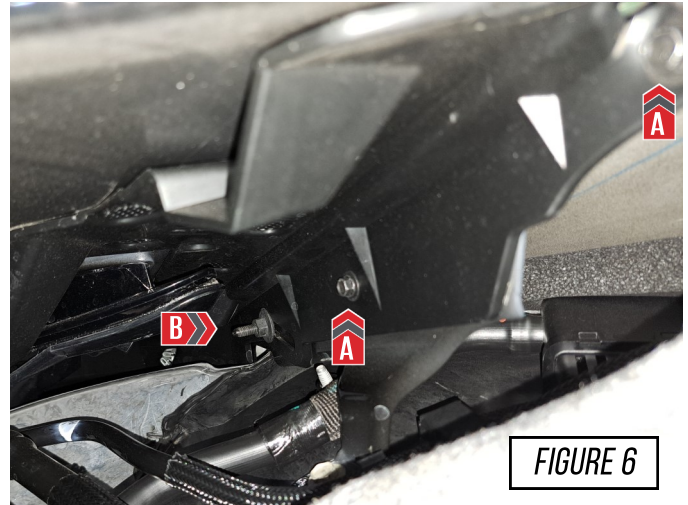

FIGURE 6
Pull back the wheel liner and remove the 2 torx screw (A) and the 1 nut (B) per each side, shown in **Figure 6**.